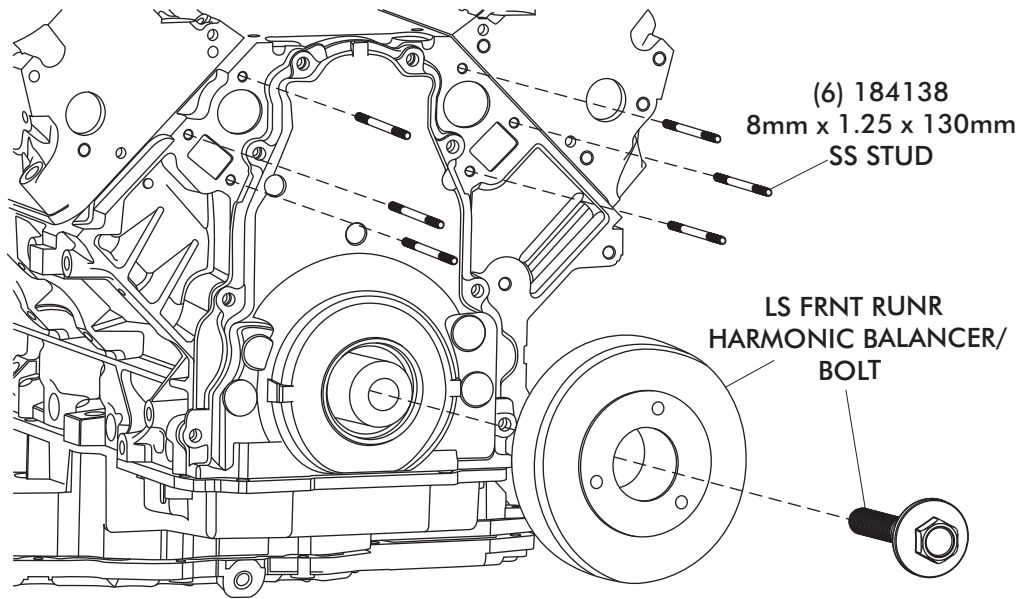

FIGURE 1
- INSTALL THE DAMPER AND NEW BOLT AS SHOWN IN FIGURE 1, PAGE 5. (**REFER TO INSTRUCTIONS INCLUDED WITH DAMPER**)
- USING A CLEAN MATING SURFACE, INSTALL THE (6) 8mm x 1.25 x 130mm SS STUDS AS SHOWN IN FIGURE 1, PAGE 5.